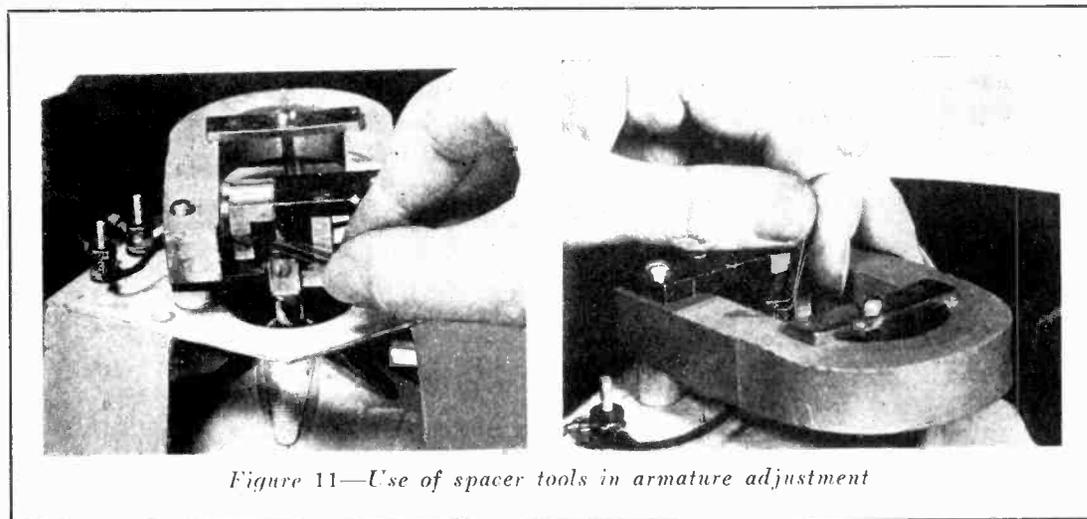

Figure 11—Use of spacer tools in armature adjustment
armature correctly it will be first necessary to make a set of spacer tools (Figure 10). These are made of $\frac{1}{8}$ " stock phosphor bronze .010" thick and bent to give two surfaces .091" apart. Two of these tools are necessary. After the two screws are loosened at each end of the armature these tools are inserted at each end between the armature and pole pieces (Figure 11). The screws are then tightened with the spacer tools in place. This completes the adjustment.
5. Insert the spacer tools in position as shown in Figure 11 and tighten the armature screws. It may be necessary to do this several times before the armature is correctly adjusted.